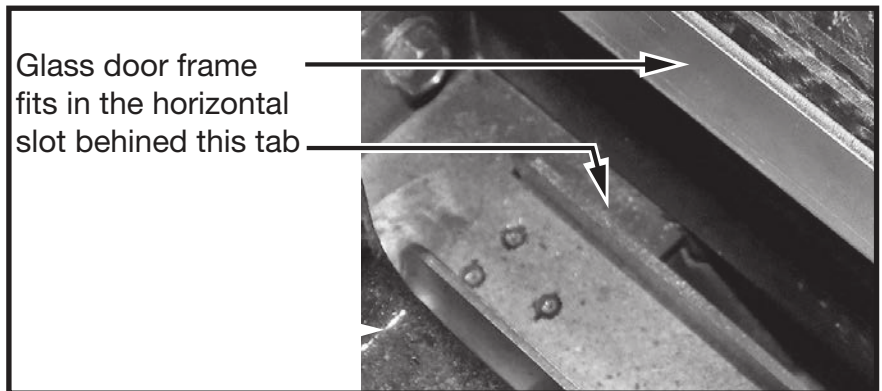

Figure 53: Glass door positioning.
1. Lower the glass door frame into place (Figure 53) making sure that the frame fits into the horizontal slot on the floor of the firebox.